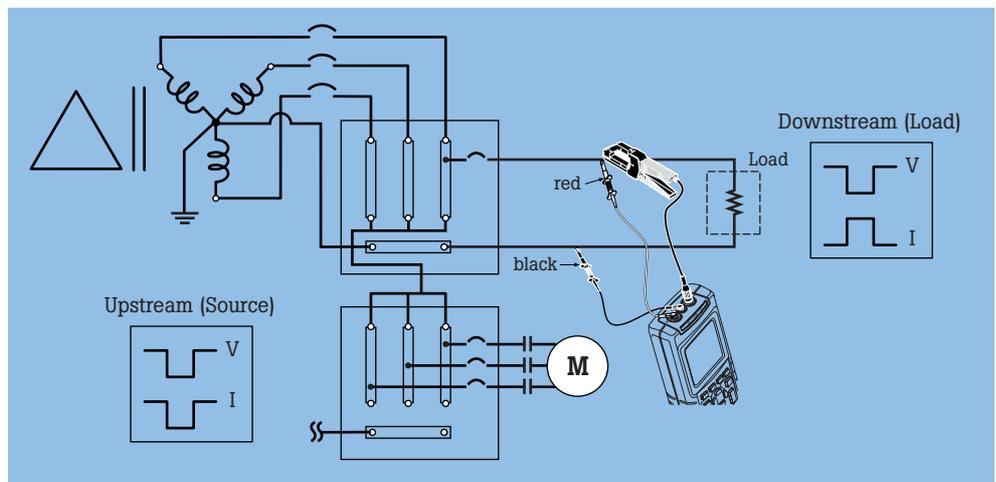
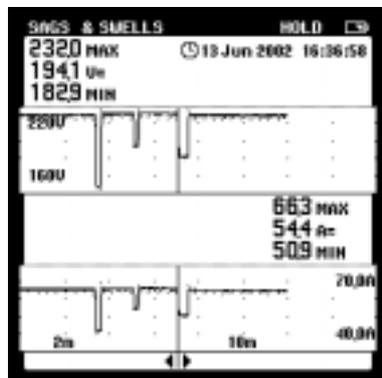

Figure 1. Isolating source of disturbance.
Figure 2. Voltage on top, current on the bottom. Real-time stamp on top.
Connect the instrument's voltage probes and current clamps on the load side of the breaker, as shown in Figure 1. Using the 43B's Sags & Swells mode, voltage events can be trended on the top half-screen and current events on the bottom half-screen (Figure 2). Each point on the trendplot (240 total points for the full-screen trend) represents
- If a *voltage sag* occurs simultaneously with a *current surge*, the sag was caused by a load on the branch circuit (Figure 2). In other words, the cause of the sag was *downstream* of the measurement point and therefore can be thought of as a *load-related disturbance*.